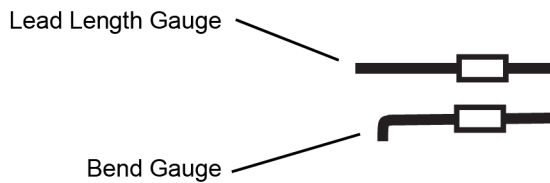

Figure 51 Trim Gauge
- a Place a resistor over the lead length gauge shown in **Figure 51**. Trim the leads to match the drawing. The orientation of the lead is not important.